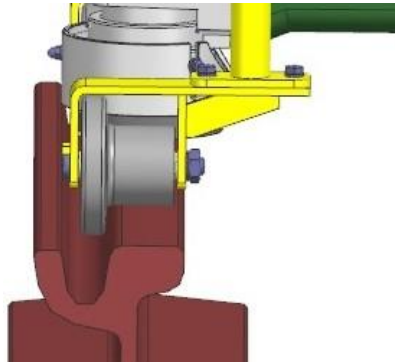

Fig. 8: Idler roller with one-sided flange for embedded deep-groove rails
- with one-sided flange for embedded deep-groove rails (Fig. 8)